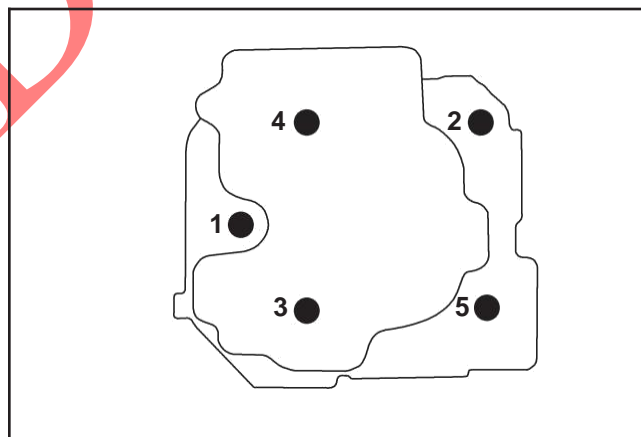

Figure 11-44. Cylinder Head Fastener Torque Sequence.
- b. Apply Loctite® No. 59241 thread sealant to the threads of two of the shorter (81 mm/3.1 in.) head bolts, and install them into location 3 and 4. See Figure 11-44.
- d. Determine the correct length head bolt for position 5, based upon the length of spacer used. If the spacer used is **27 mm (1.062 in.)** long, use a long (90 mm/3.5 in.) head bolt. If the spacer used is **17 mm (.669 in.)** long, use a shorter (81 mm/3.1 in.) head bolt. Insert the appropriate head bolt through the spacer and washer, and install it in position 5. See Figure 11-44.
- f. Following the sequence in Figure 11-44, torque the bolts to **24 N·m (18 ft. lb.)**. Then repeat the sequence to a final torque of **48.9 N·m (36 ft. lb.)**.